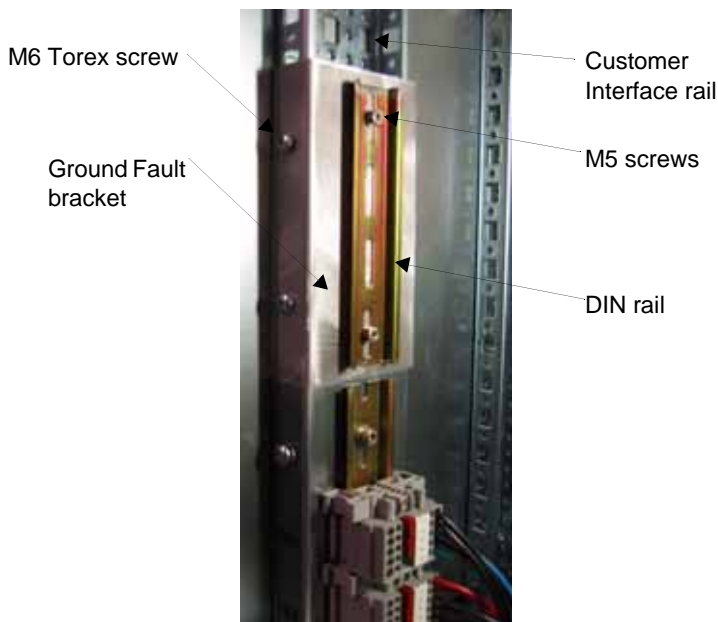

Figure 1 GFP Installation Layout
1. Install the DIN rail onto the Ground Fault Monitor bracket using the two M5 hardware, see Figure 1.